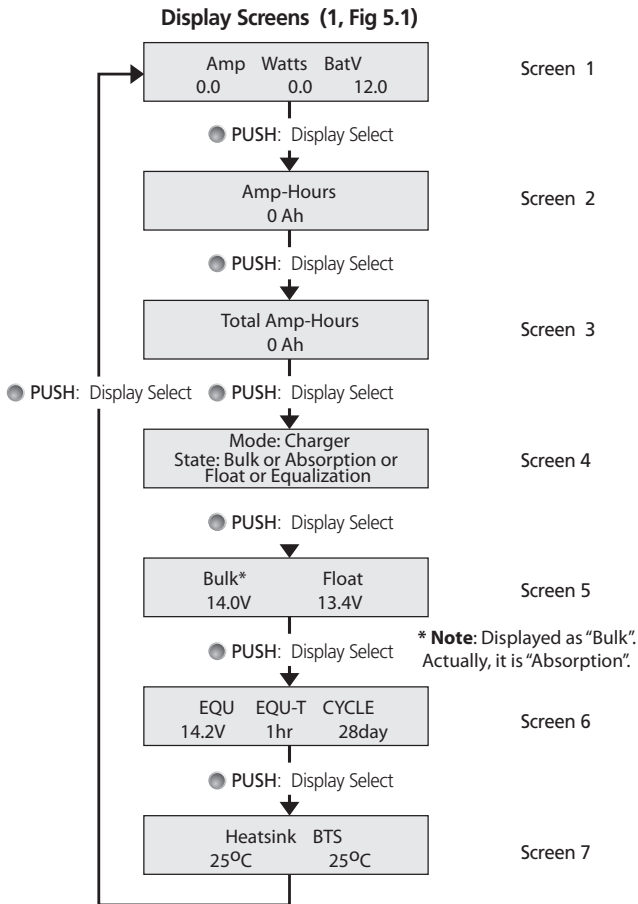

Fig. 5.3. LCD Display Flow
- LCD Screen 4 (Fig 5.3) displays “State: Equalization” all the time till the unit exits Equalization Stage to Float Stage.
- Screen 6 (Fig 5.3) displays the set Equalization Voltage (under EQU), the Equalization Time (under EQU-T) and 28 day period (under CYCLE) pertaining to one of the 6 options of battery types that has been selected with the help of DIP Switches 2, 3, 4 (Fig 5.2 and Table 6.1)
During this stage, the LCD Screen 4 (Fig 5.3) displays “State: Equalization”. Screen 1 (Fig 5.3) shows the actual terminal voltage of the battery under “BatV”. This voltage
will be less than the programmed Equalization Voltage Set Point displayed on Screen 6 (Fig 5.3) under "EQU".
**NOTE:** *Although the charger is in Bulk Stage, the LCD Screen 4 (Fig 5.3) displays "State: Equalization" and NOT "State: Bulk."*
During this stage, LCD Screen 4 (Fig 5.3) displays " State: Equalization". LCD Screen 6 (Fig 5.3) displays the programmed Equalization parameters. Screen 1 (Fig 5.3) shows the programmed value of Equalization Voltage Regulation Set Point "Ve" under "BatV".
**NOTE:** *During Equalization Stage, if the load current is more than the current from the solar panel, the battery voltage will drop. If the battery voltage drops around 1V below the Equalization Transition Voltage Set Point "Ve" for around 1 min, the controller reverts to Bulk Stage with 100% Duty Cycle. The LCD Screen 4 (Fig 5.3) will still display "State: Equalization" and the front panel Status LED will still be blinking Orange. It will revert to PWM when the battery voltage reaches Equalization Transition Voltage Set Point "Ve" and is sustained for a minimum period of around 50 to 55 sec.*
During this stage, the LCD Screen 4 (Fig 5.3) displays “State: Float”. Screen 5 (Fig 5.3) displays the programmed Float Voltage Regulation Set Point (Displayed on the screen under “Float”).
**NOTE: During Float Stage, if the load current is more than the current from the solar panel, the battery voltage will drop. If the battery voltage drops around 1V below the Float Voltage Regulation Set Point “Vf” continuously for around 1 hour, the controller reverts to Bulk Stage and the LCD Screen 4 (Fig 5.3) changes to “State: Bulk”.**
Display (3, Fig 5.1)	Push to change the LCD display screens (Fig. 5.3) Push and hold to reset Amp-Hours.
Fig. 5.3. Please note that the 7 screens are sequential & are displayed in a continuous loop: 1 - 2 - 3 - 4 - 5 - 6 - 7 - 1 - 2 - 3 and so on (See Fig. 5.3, page 36). When selected, Screens 2 to 7 will be displayed for 15 minutes and thereafter, will revert to Screen 1 (Default Screen). Details of information provided in the LCD screens (Fig 5.3, page 36) are given below:
As soon as Battery (+) is connected, the Status LED (2, Fig .1) will be steady Orange and message "Welcome to Samlex Solar 1.0" will be displayed for around 3 to 5 sec. After this, the LED will blink Green & Screen 1 (Fig 5.3) will be displayed: Amp 0.0; Watt 0.0; BatV="the battery voltage".